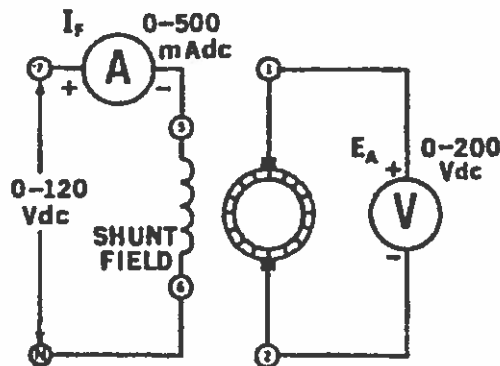

Figure 27-2.
3. a. Using your DC Motor/Generator and DC Voltmeter/Ammeter, connect the circuit shown in Figure 27-2.